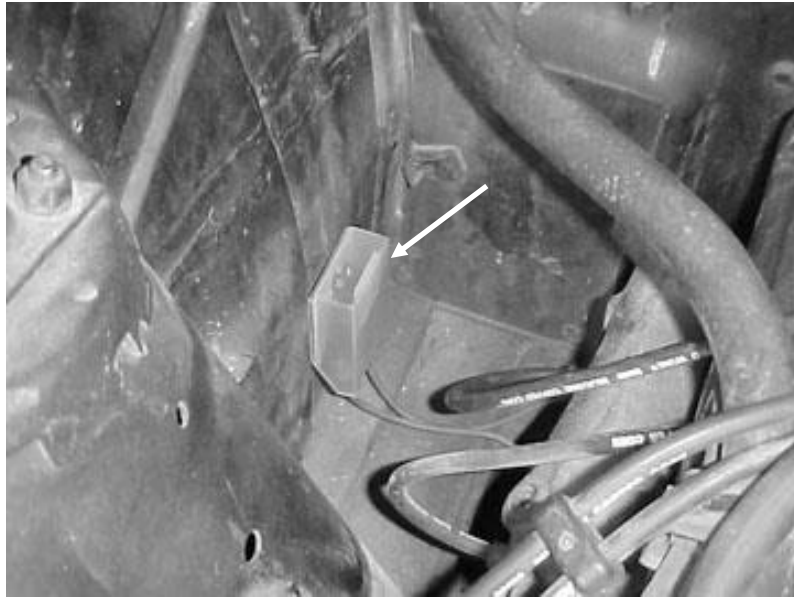

Figure 8.13 Maxi Fuse
panel as shown in figure 8.13. Take the starter Red wire (916) and route it to the maxi fuse holder. Cut the wire, crimp on a ring terminal and connect it to a fuse holder terminal. Take the remaining wire that was cut off and crimp on a ring terminal, connect it to the other side of the fuse holder. Take the other end and route it to the starter solenoid and connect it to the large battery terminal.